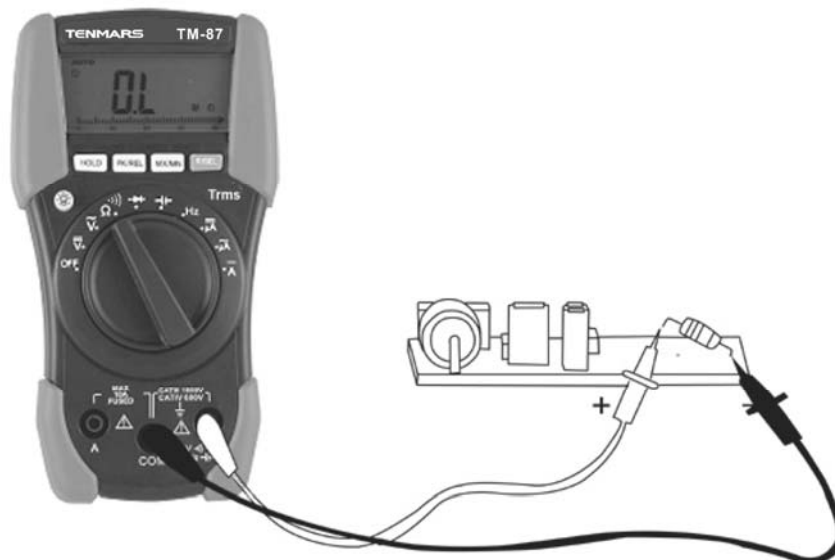

Fig. 6: Using the instrument for Resistance measurement and Continuity test
2. Insert the test leads into the jack, the red plug into  $\rightarrow$  Hz **V $\Omega$   $\mu$  A** jack and black plug into **COM** jack (see Fig. 6).